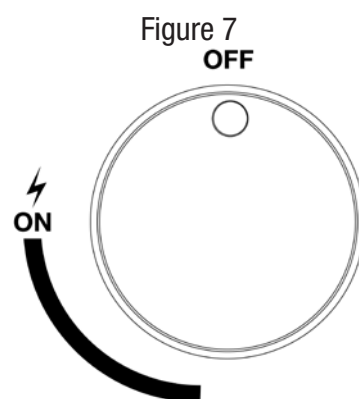

Figure 7
3. Control knob must be in the "OFF" position. (Figure 7)